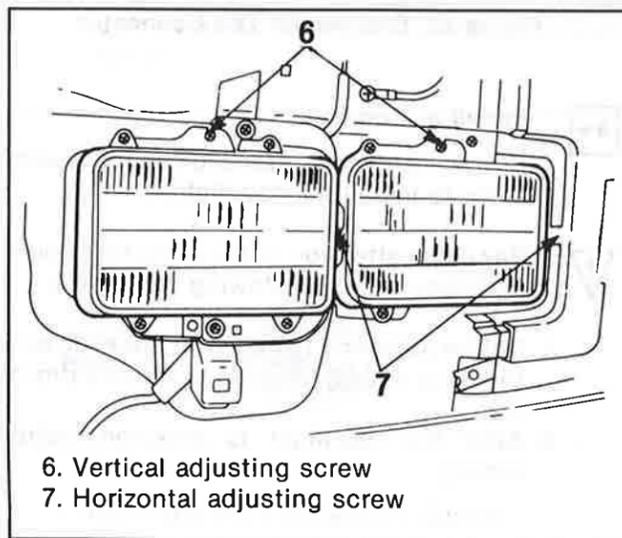

Figure 91. Headlight Aiming
**Headlight Aiming (Figure 91)**